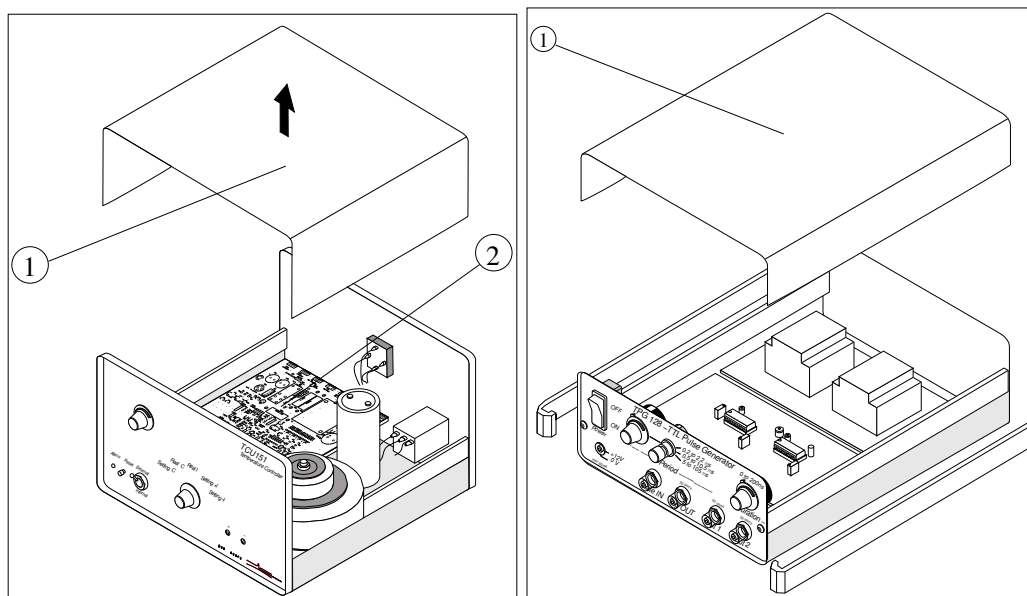

Figure 7.8.: TPG (left) and TCU (right) cover removal.
2. remove the TPG or TCU cover (refer to figure 7.8):